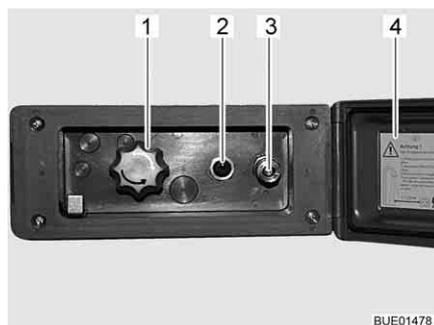

Fig. 108 External shower connection point
- Unlock and open the cover (Fig. 108,4).
- Attach hose of the external shower to the quick closure (Fig. 108,3).
- Switch on the water pump using the switch (Fig. 108,2).
- Adjust the water temperature with the rotary knob (Fig. 108,1) as desired.
- Switch off the water pump using the switch (Fig. 108,2).
- Close the cover (Fig. 108,4) and lock with key.
- Turn knob (Fig. 108,1) to the centre position.